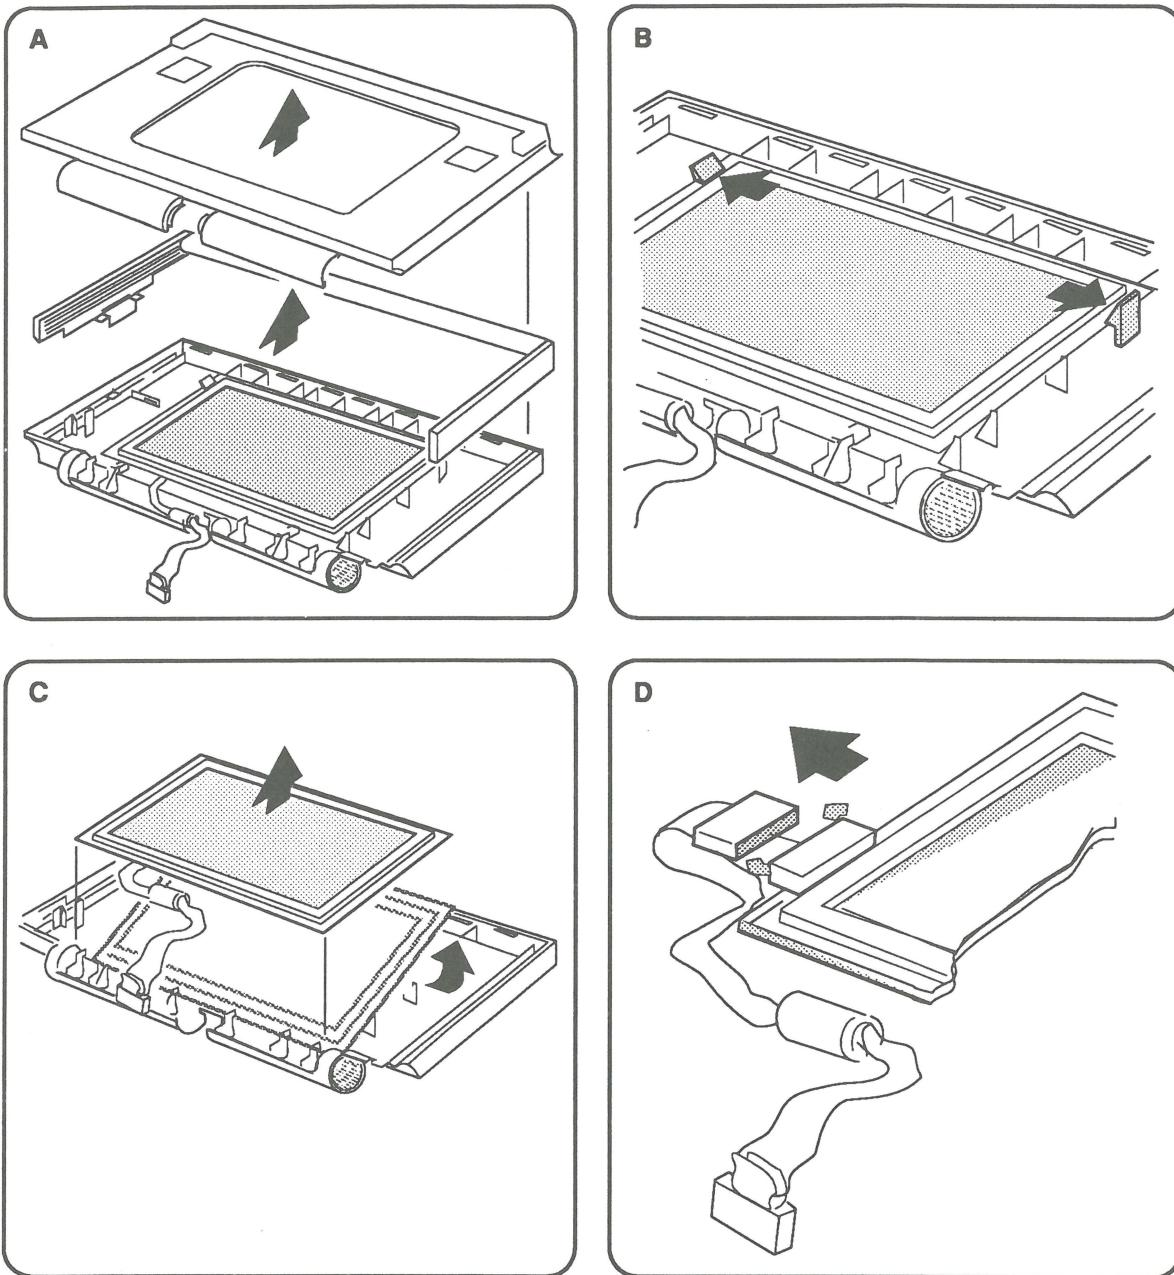

FIGURE 14
7. **Figure 14-A.** Lift the display bezel and carrying handle off the display housing.
8. **Figure 14-B.** Simultaneously pull the two plastic clips at the upper-left and upper-right sides of the display away from the display with your thumbs and lift up the display with your index fingers.
9. **Figure 14-C.** Slide the display up and out of the housing.
10. **Figure 14-D.** Disconnect the display cable.